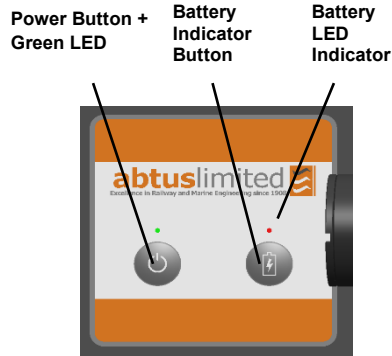
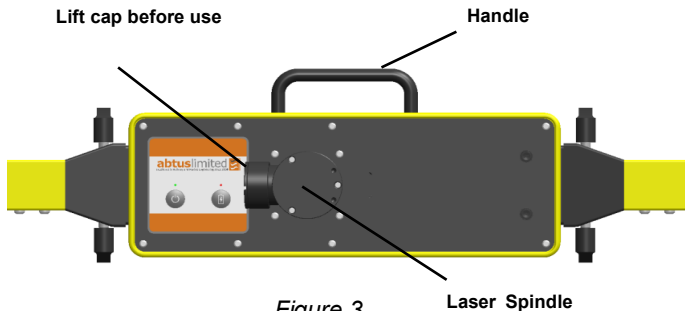

Figure 2
Figure 3
- Ensure that the gauge is powered by pressing the Power Button – the Power Button should now display a green light (Figure 2). Figure 3 shows you the some parts of the RouteScan.